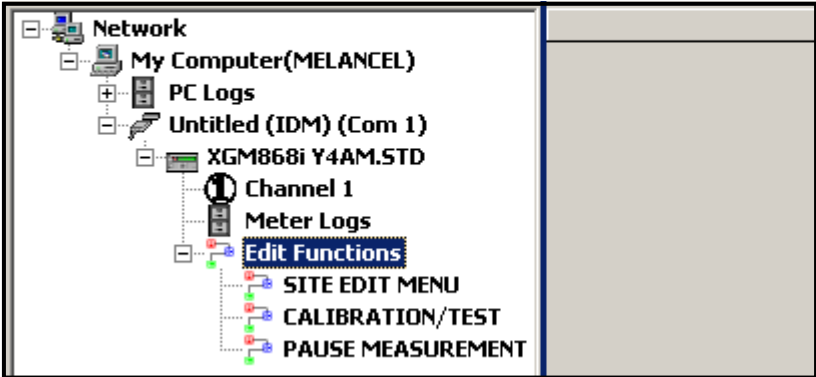

Figure 40: Menus in the *Edit Functions* Option
2. Expand the *Edit Functions* option. The window now appears similar to that shown in Figure 40 on page 87.